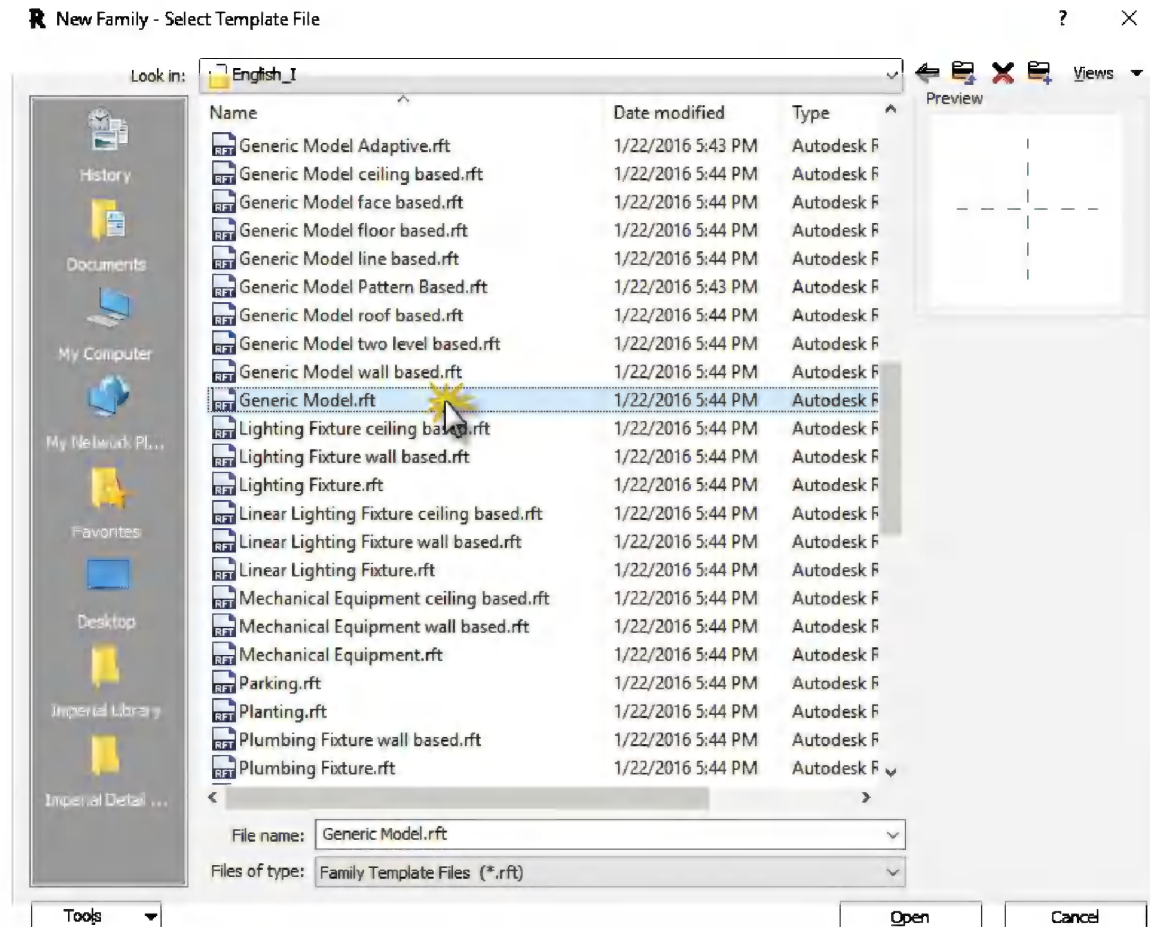

FIGURE 15-2.2 Selecting a Family template file
3. Select **Generic Model.rft** and then click **OK** (Figure 15-2.2).